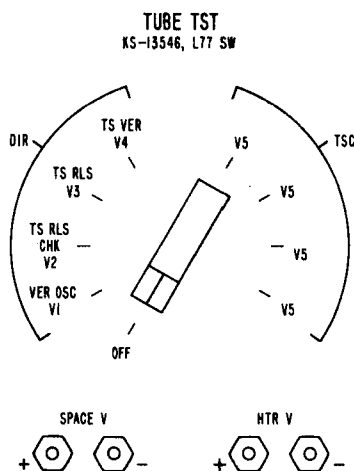

Fig. 3—TUBE TST Selector Switch on Director Unit
This section is reissued to show the correct illustration for Figure 3. *Equipment Test Lists are not affected.*
- 2 Set the TUBE TST selector switch on the director unit to DIR VER OSC V1 (see Fig. 3).
- 3 Connect the VOM to the HTR V test jacks (see Fig. 3).